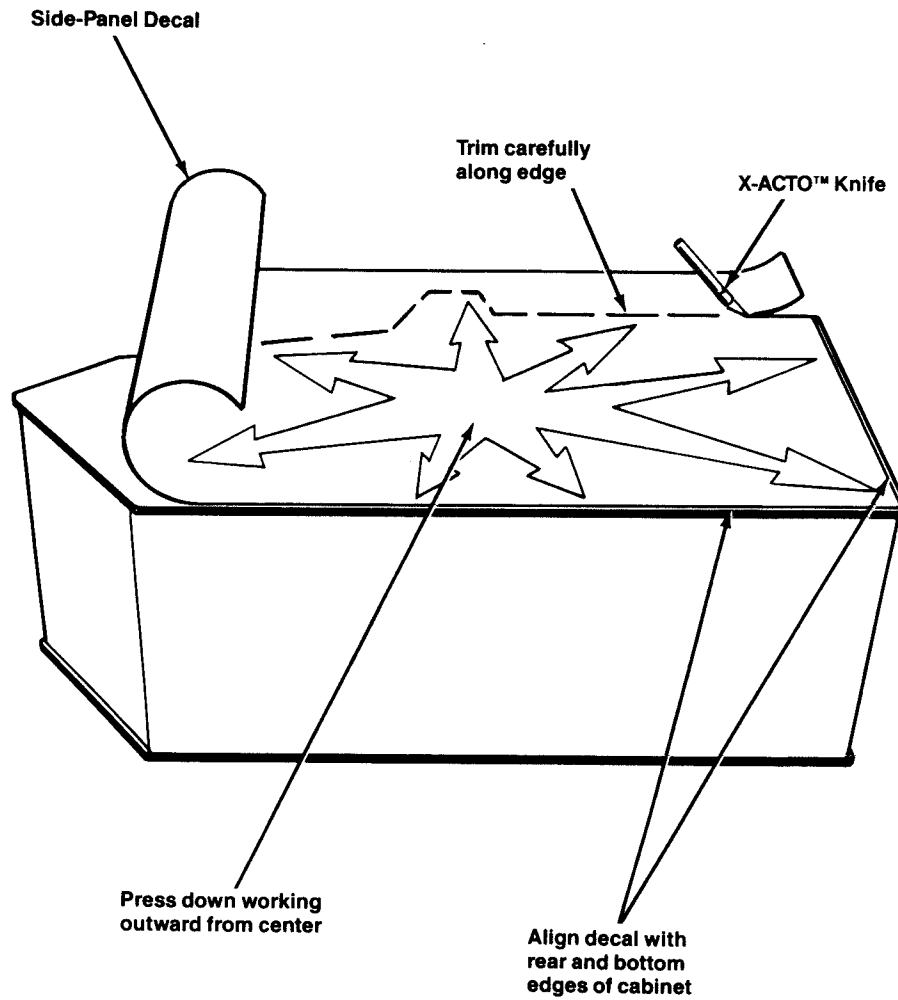

Figure 11 Installing the Side-Panel Decals
Perform the following procedure to install the Major Havoc side-panel decals on the game cabinet (see Figure 11).
6. Align the decal with the rear and bottom edges of the cabinet as shown in Figure 11.